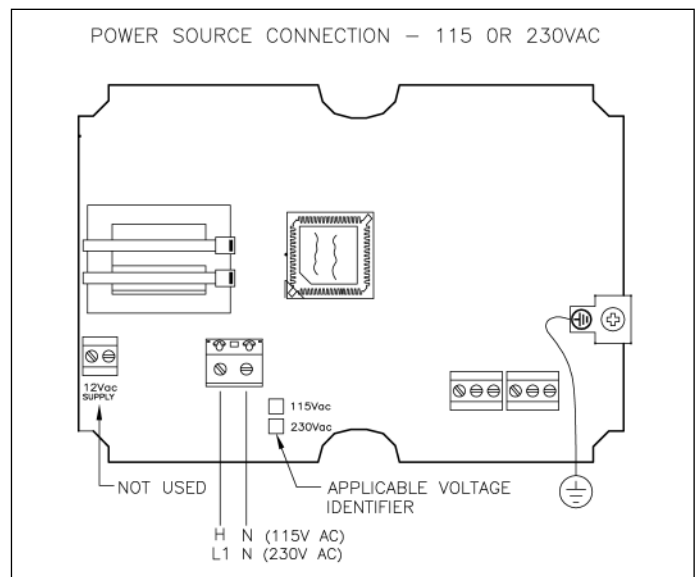

Figure 6
- 1) 115 or 230VAC Source:** (See Figure 6) Verify the intended voltage supply is compatible with the voltage configuration indicated on the electronics and the external nameplate. Standard mains supply voltage (115VAC or 230VAC as ordered) can be connected to the unit's L1 and N terminals.